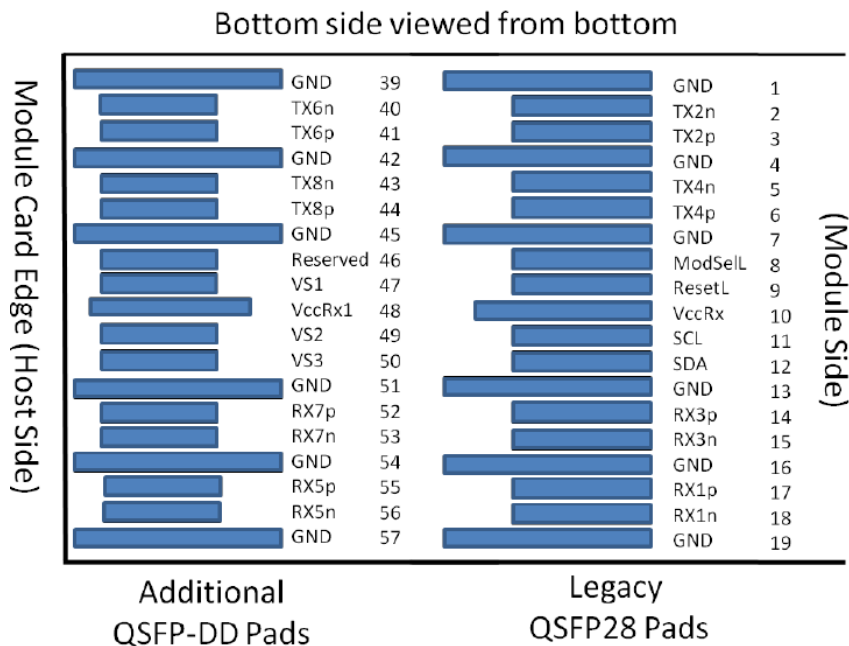

Figure 3: Module pad layout
4. Plug Sequence specifies the mating sequence of the host connector and module. The sequence is 1A, 2A, 3A, 1B, 2B, 3B. (see Figure 3 for pad locations) Contact sequence A will make, then break contact with additional QSFP-DD pads. Sequence 1A, 1B will then occur simultaneously, followed by 2A, 2B, followed by 3A, 3B.